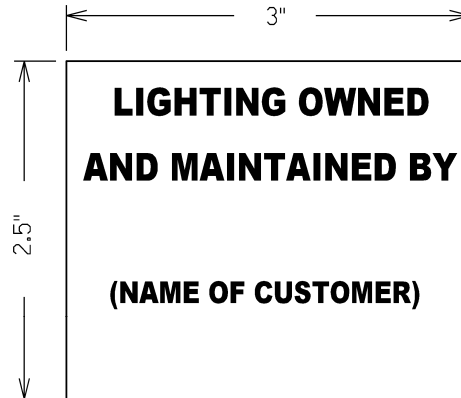

Figure 1 – Ownership Identification Label for Customer Owned Outdoor Luminaires
Ownership Identification: The customer is responsible to label all customer owned outdoor lighting luminaires in accordance with National Grid Construction Standards. See Figures 1 and 2.
2. Ownership identification labels shall be reflective white with black lettering. See Figure 1.